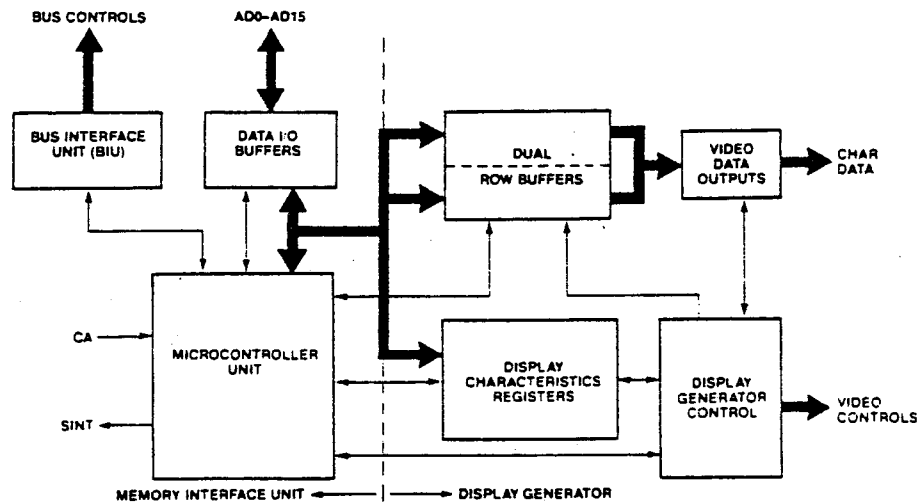

Fig. 4. 82730 Block Diagram
Figure 4 shows a block diagram of the 82730. The chip is divided into two main sections. The Memory Interface Unit (MIU) and the Display Generator (DG). The MIU provides the communication between the 82730 and system processor and memory, while the DG acts on the display data and carries out the display operation.